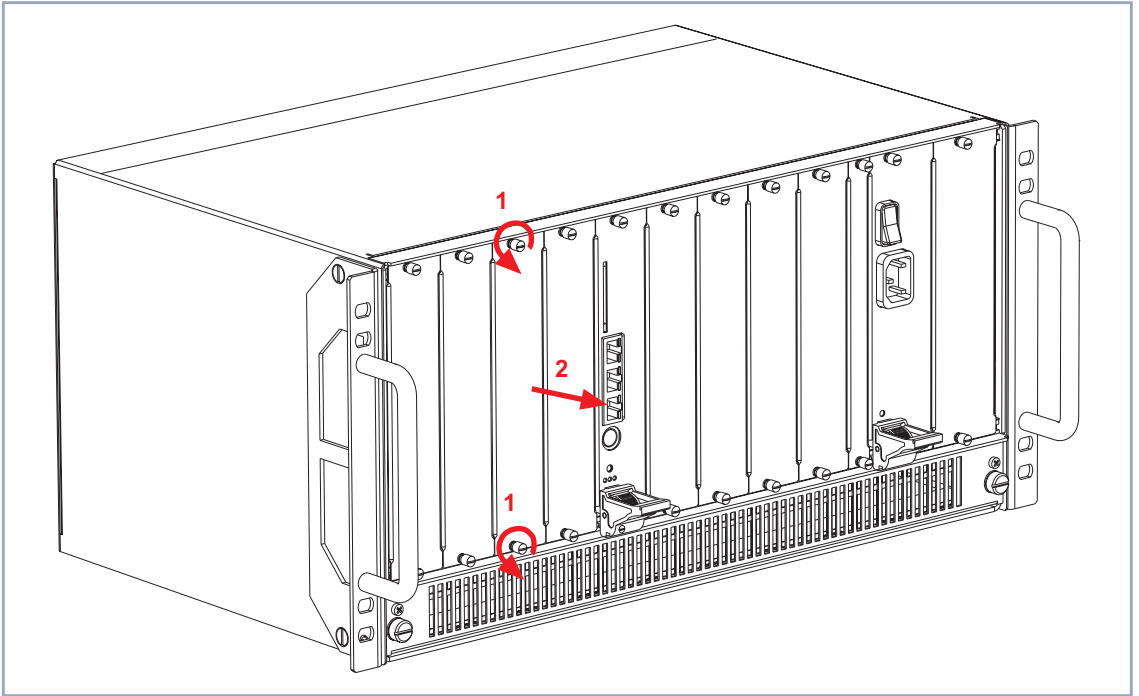

Figure 4-3: Removing the dummy front panel
- Loosen the screws (see figure 4-3, page 35, arrows no. 1) of the dummy front panel.